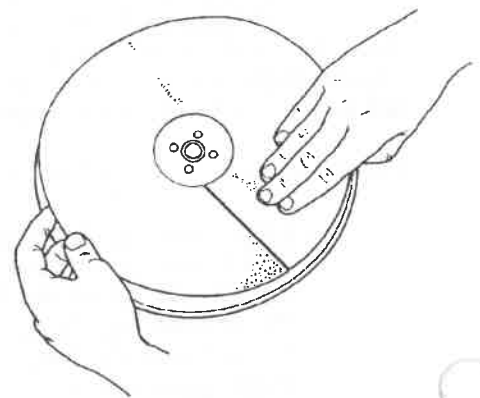

Fig. 4
4. Once aligned, gently press the sandpaper from one end of the split around to the other end of the split. See Fig. 4. Take care that the sandpaper stays aligned and it is flat on the disc surface.